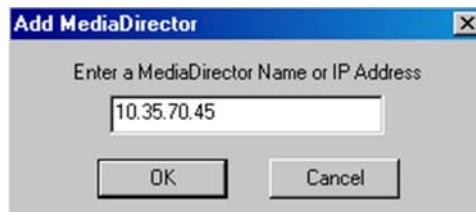

Figure 3-8: Add MediaDirector Dialog
- Click **Add MediaDirector** to display the **Add MediaDirector** dialog (*Figure 3-8*), which allows you to enter the IP address (or registered name) of the MediaDirector that you wish to utilize for this delay application. Once added, the MediaDirector is available in the drop-down “MediaDirector” lists for both recording and delayed payout.